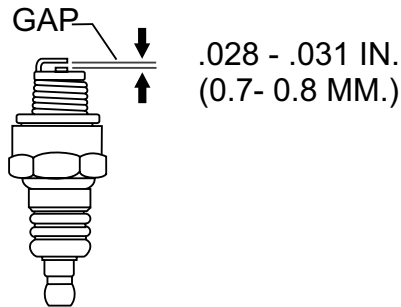

Figure 26. Spark Plug Gap
1. Remove and clean spark plug (Figure 26) with a wire brush if it is to be reused. Discard spark plug if the insulator is cracked or chipped.